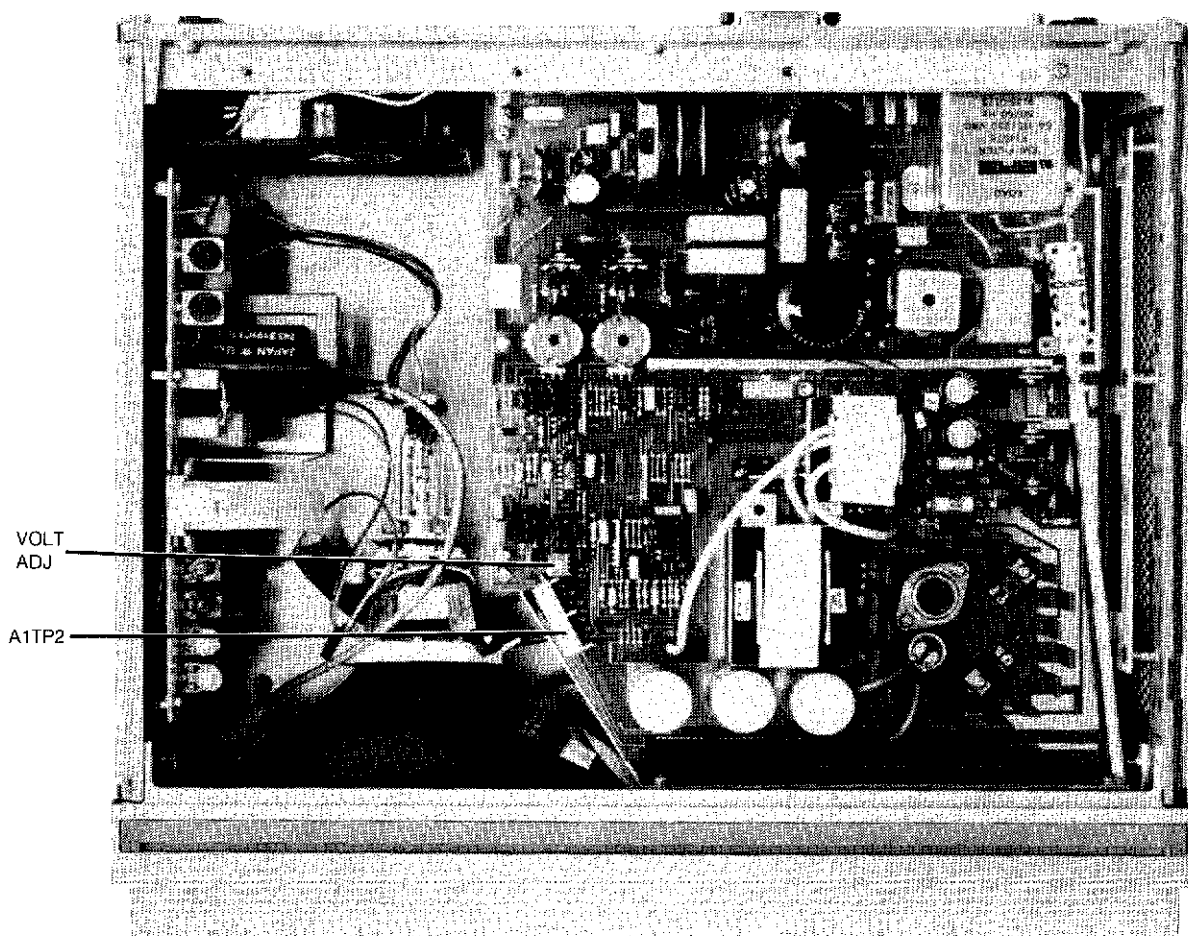

Figure 6-7. Power Supply Test Points.
5. Check dc voltages shown below on power supply test connector A1TP2 (figure 6-7).